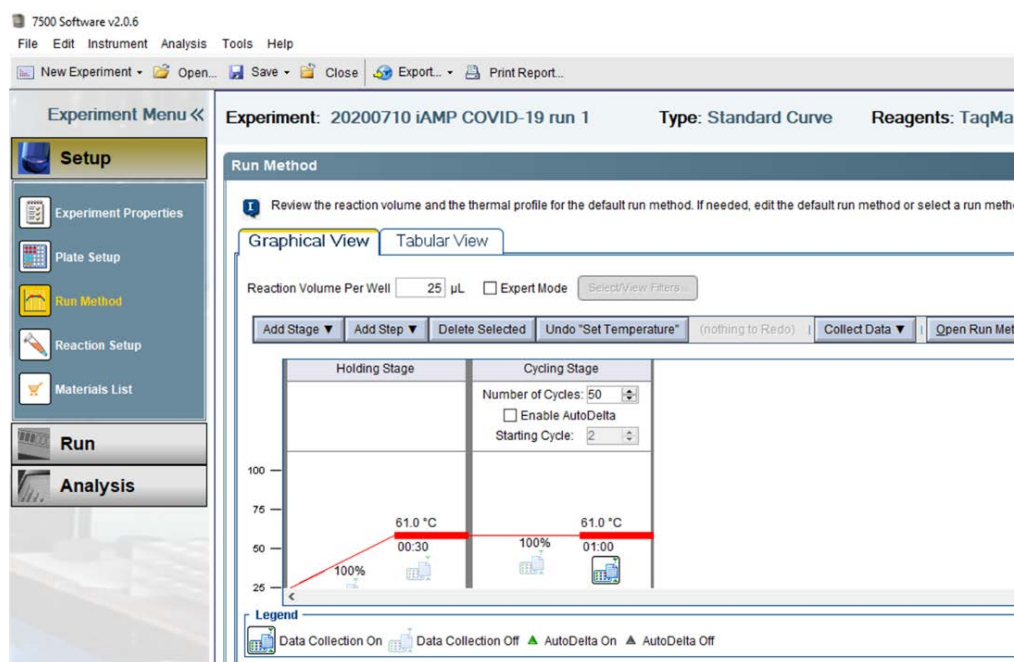

Figure 13. Run method set-up using 7500 Software.
- Setup Run Method according to the following table 4 and Figure 13. Fluorescence reading is taken at the end of each cycle. Reaction volume per well is 25µL.